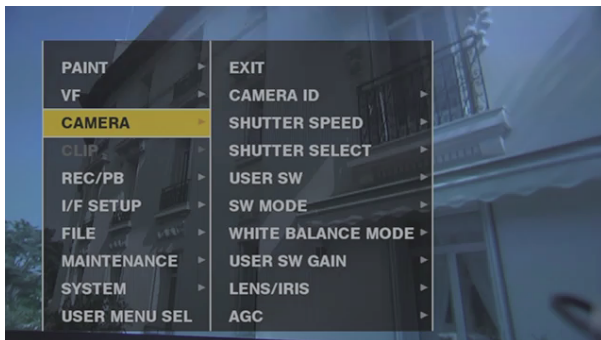

Fig. 1
- 2** Use the jog dial button (or the cursor buttons (▲▼)) to place the cursor on the corresponding menu item. (Fig. 1)